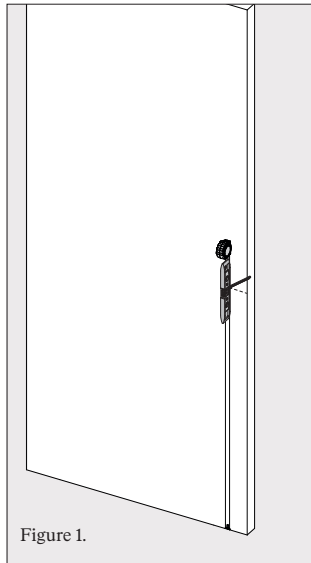

Figure 1.
- 1.1 Mark the edge of your door at the desired height of your escutcheon from the centre of the spindle hole of the door lever to the centre of the key hole. Figure 1.